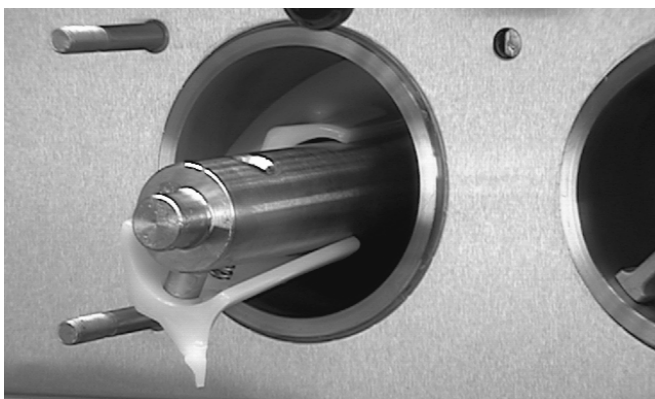

Figure 19. Auger Flight Removal
- B. Place the mix pump switch in the ON position and open air bleed valve on the front door by pushing valve in and holding (see Figure 19).